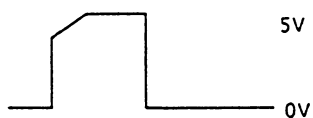

Figure E-5
- Yes Is a RST signal in 01C is as specified in Figure E-5?